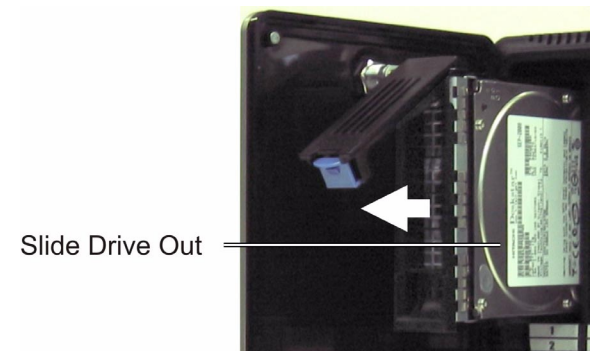

Figure: 3
3. Lift the hard drive lever 45 degrees to disconnect the hard drive from the internal connector (see figure 3). Wait 10 seconds for the hard drive to spin down before removing.